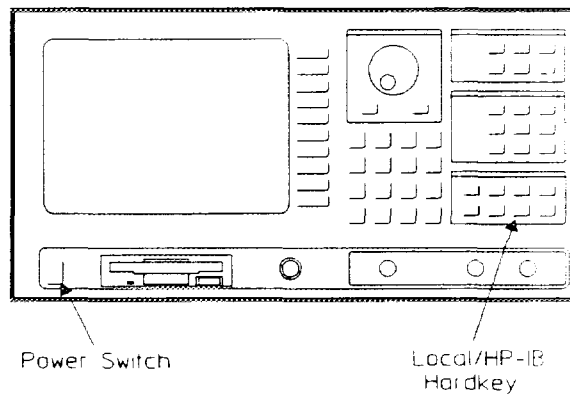

Figure 1-3. HP 35665A Front Panel
3. Turn on the HP 35665A. When the softkey labels appear, press the [ Local/HP-IB ] hardkey. See figure 1-3.